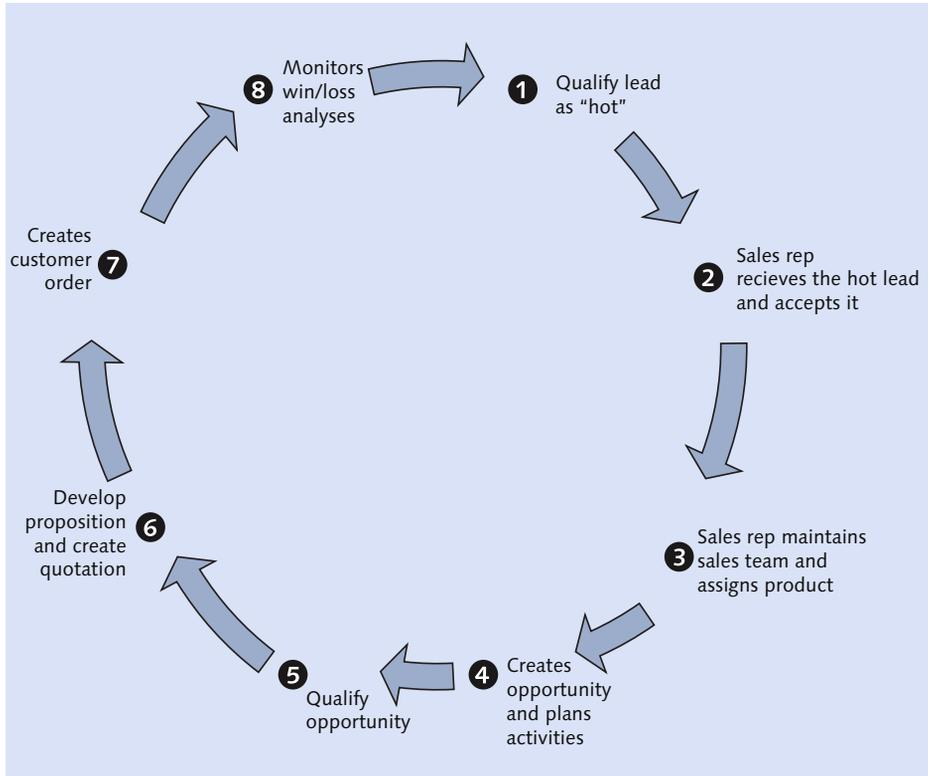

Figure 6.1 Sales Close Loop Cycle
The *SAP CRM closed loop cycle* describes the sales cycle from start to finish. SAP CRM Sales has different applications to register sales from customers, for example, the Interaction Center (IC), mobile applications, phone numbers, and e-selling. Figure 6.1 illustrates the SAP CRM closed loop cycle.